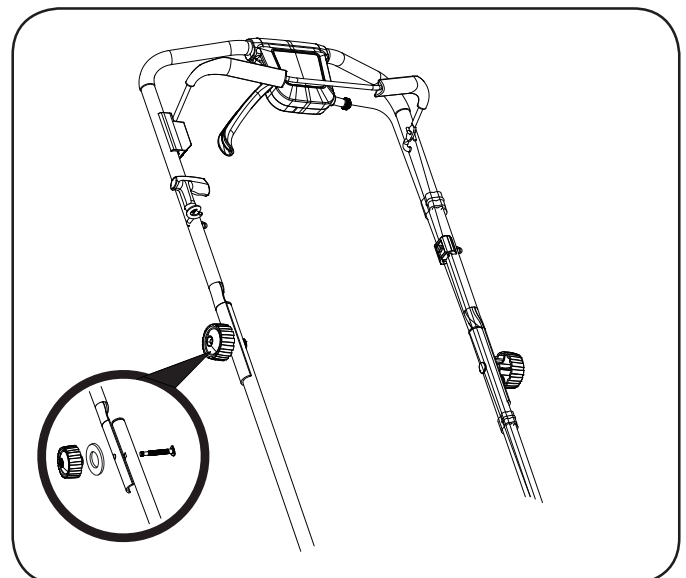

Figure 4
3. Reinforce the connection between upper handle with lower handle by two handle connecting knobs (Figure 4).